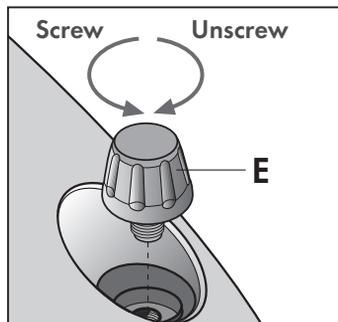

Fig. 4
- Unscrew the fill-up cap (E) (Fig. 4).
- Tighten the cap (E) while applying slight pressure on it. Ensure the cap is well tight. (Fig. 4)